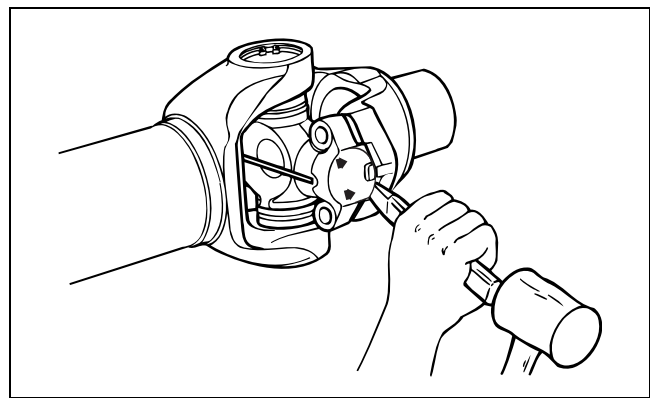

Figure 4
- If necessary, use an appropriate tool to tap the wing bushing from the end yoke. Figure 4.